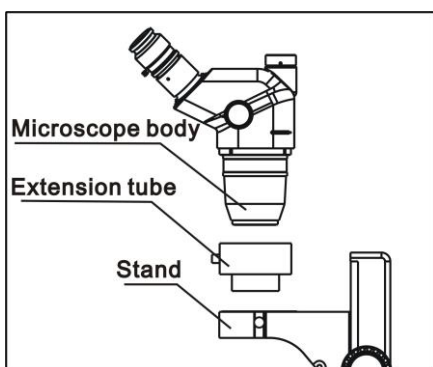

Fig 6
- (1) Mount the auxiliary into microscope body.
- (2) As the working distance of 0.5X auxiliary lens is much long, please use extension tube when use 0.5X auxiliary lens. (Fig 6)